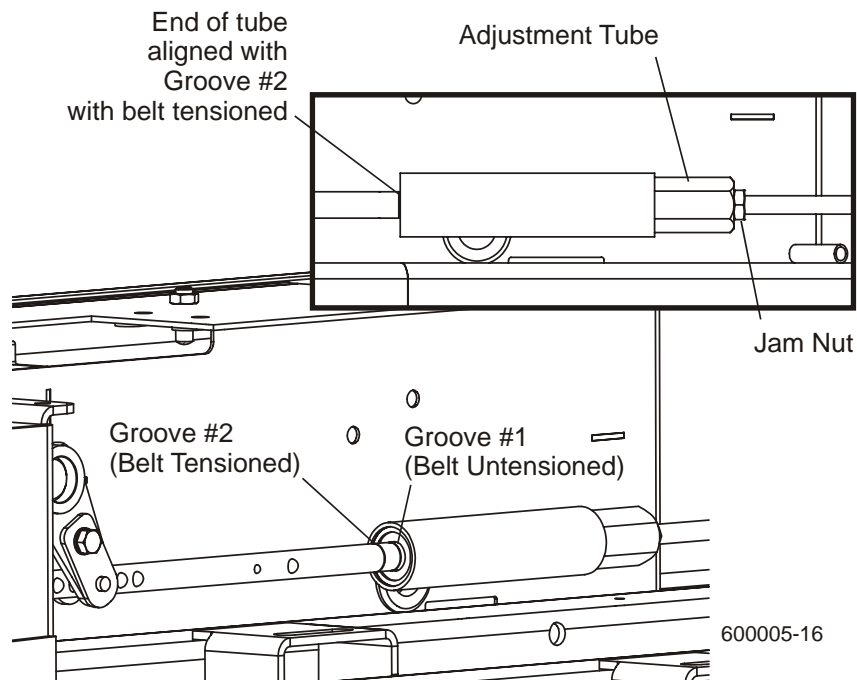

**FIG. 5-7**
**See Figure 5-7. Retrofit:** Measure the belt tension with a gauge. Proper tension for a new belt is 3/8" deflection using 14 lbs. of deflection force. Use 9 lbs. of deflection force for subsequent adjustments.